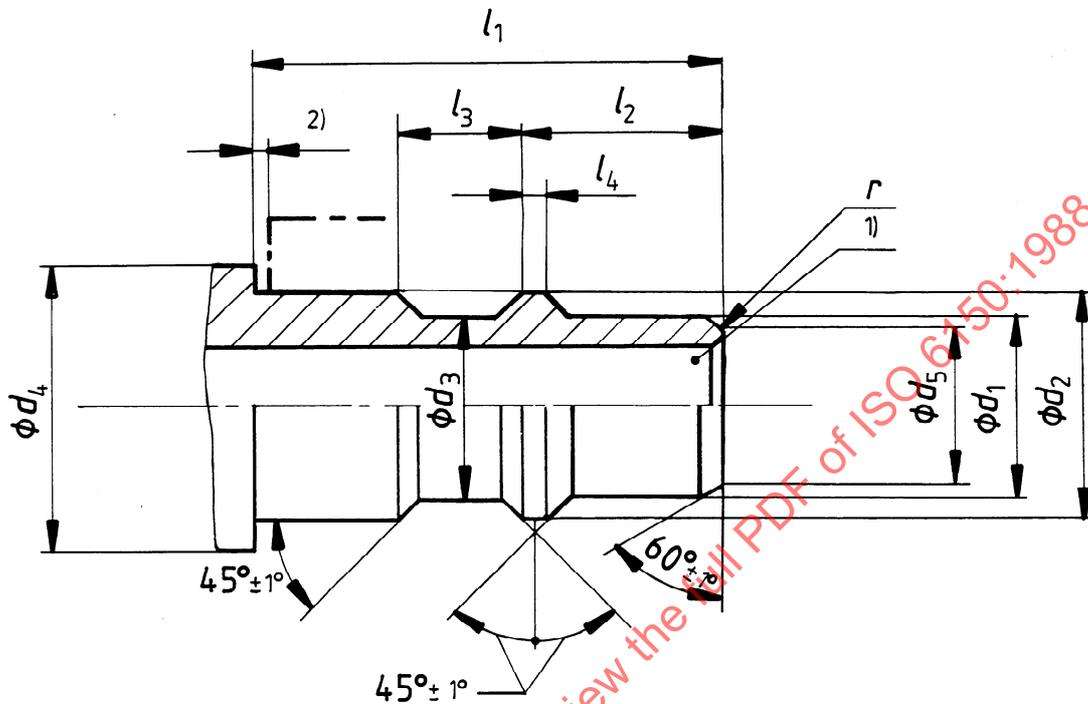

Figure 1 — Plug for 10 bar (1 MPa) maximum working pressure (series A)
**4.2** Tables 1 to 3 and figures 1 to 3 are only concerned with the dimensions and tolerances of the plug. The socket is left to the manufacturer's option; the same condition applies to the plug end for connection to either a component, or a pipe or hose.
4.2.1 The dimensions and tolerances for plugs on series A cylindrical quick-action couplings are shown in figure 1 and given in table 1.